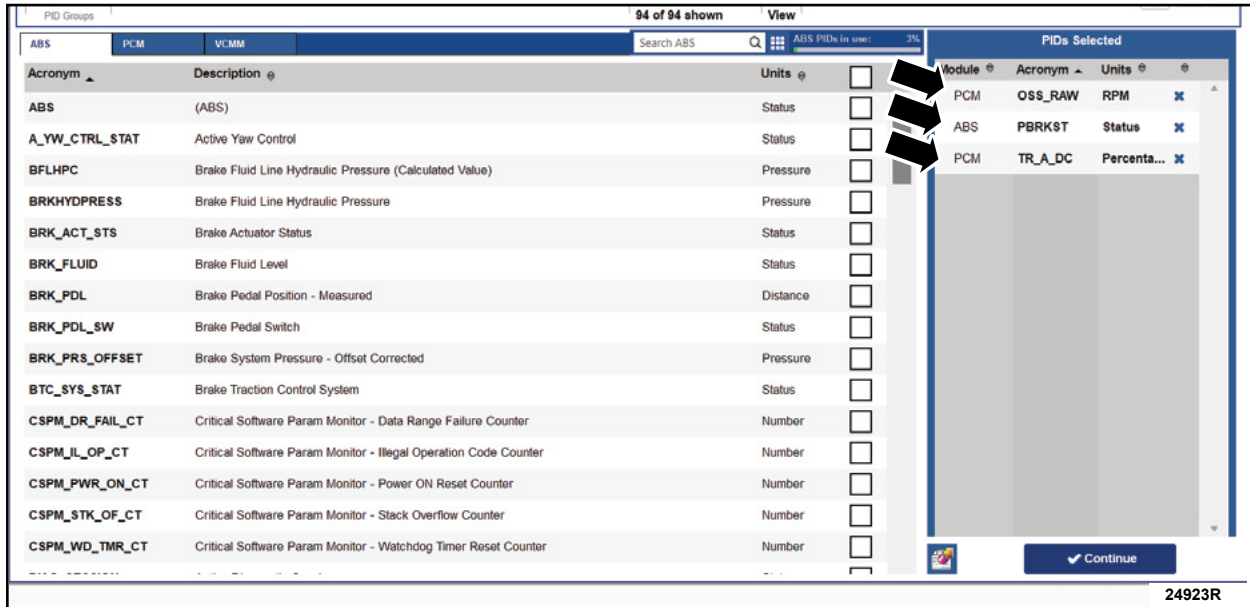

FIGURE 2
- In the search bar, type in **OSS_RAW** then type in **PBRKST** and **TR_A_DC** and select all three PID's. See Figure 2.
- Check the boxes to select **Output Shaft Speed - Raw**, the **Park Brake State** and the **Transmission Range Sensor Input A** then click **Continue**. See Figure 2.